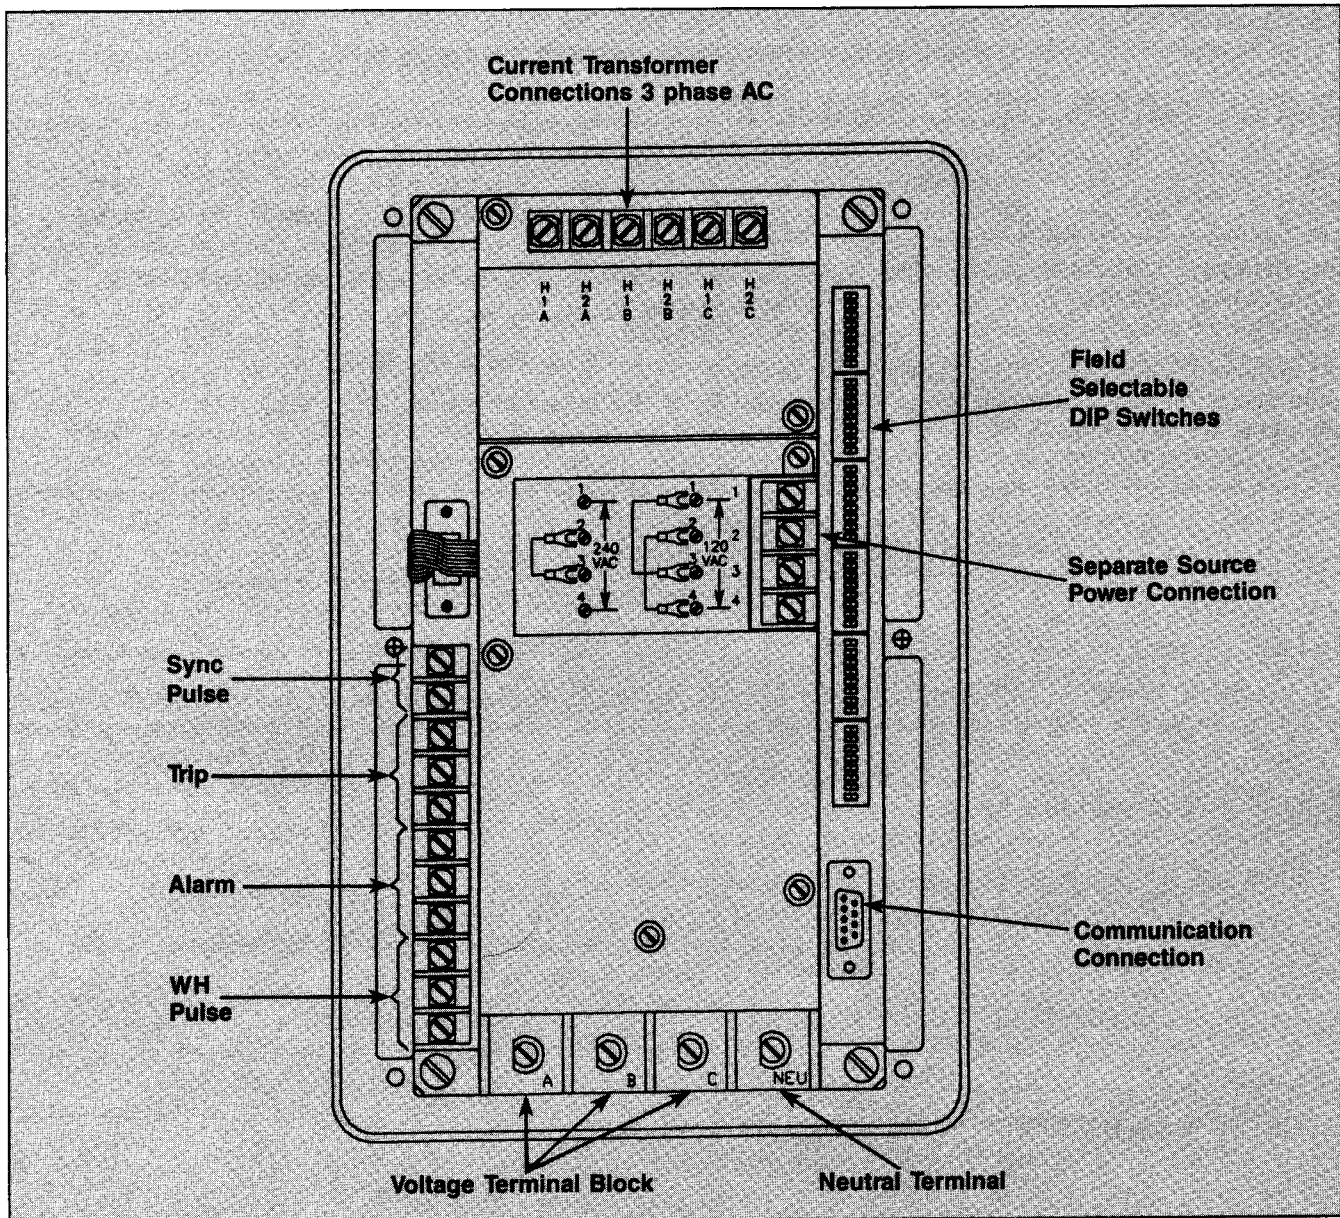

Figure 2.1B — Rear Access Area — Separate Source Power Module
3. The appropriate wiring configuration for 120 or 240 VAC operation is shown on the wiring label attached to the rear of the chassis. This is also shown in Figure 2.1B. For 120 VAC operation, jumpers must be installed from terminals 1 to 3 and 2 to 4. For 240 VAC operation, a jumper must be installed from terminals 2 to 3. The appropriate voltage should be applied across terminals 1 and 4. This will supply control power to the IQ Data Plus II independent of the AC line voltage being monitored. See Figure 2.1B.